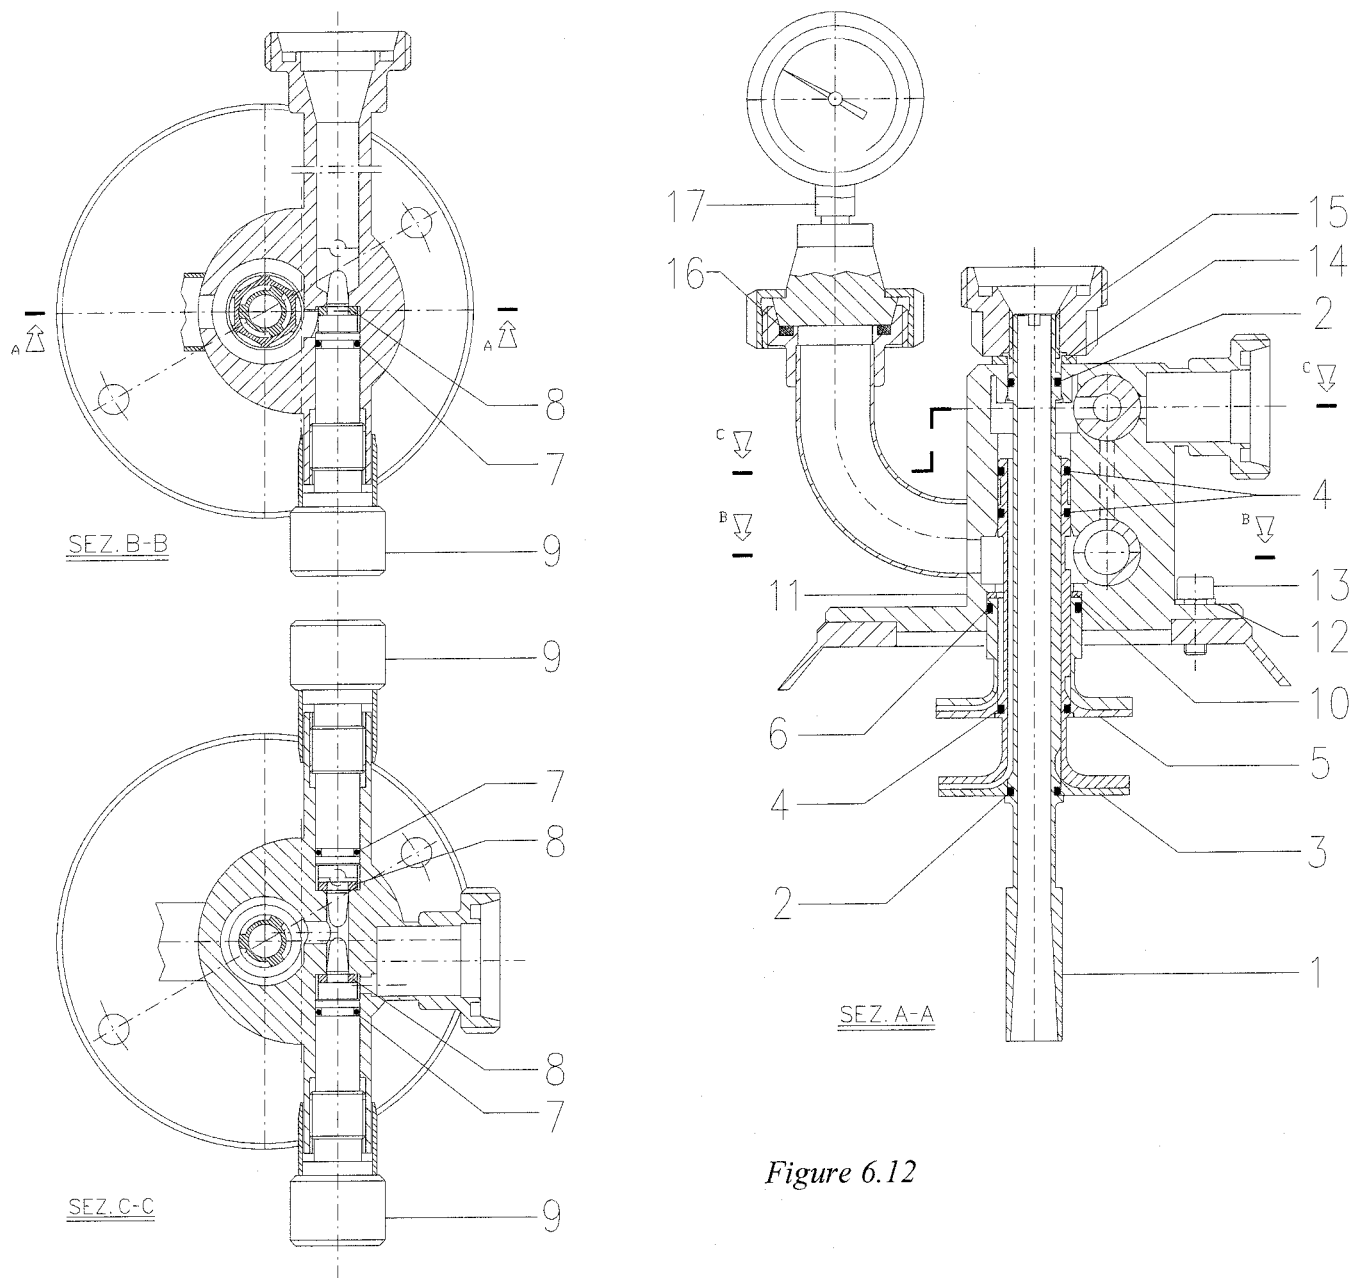

Figure 6.12
Proceed according with the following procedure (fig. 6.12):
The correct position of pumps is shown by fig. 6.10; the pumps are in the middle of the corresponding chambers of the bowl. This position is obtained by inserting a few spacers (10) - fig. 6.12 between the centripetal pump (5) and the inlet-outlet flow unit body (11). The number and thickness of spacers may vary only after the replacement of some parts of the vertical shaft unit (Tab. 06) and/or of the bowl (Tab. 04) and/or of the inlet-outlet flow unit (Tab. 05). In this case it is advisable to vary corresponding number and thickness of spacers indicated on technical card § 3.3. The total thickness of spacers is determined by the following relation:
Proceed in inverse order than assembly (see Fig. 6.12).